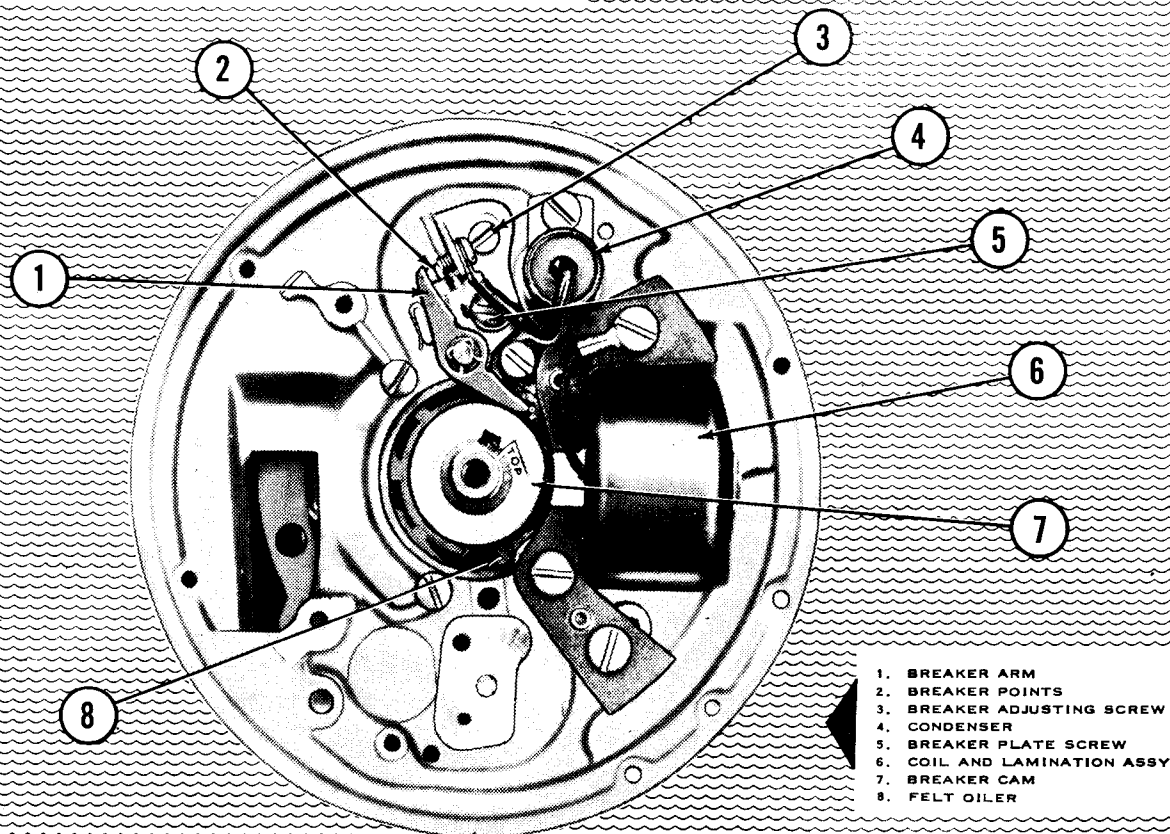

FIGURE 8
The magneto is equipped with a felt oiler to lubricate the cam and reduce wear on the cam block of the breaker (Fig. 8). A few drops of light oil should be put on the felt once or twice a year.
After cleaning, reset point gap to .020 inch maximum opening as follows: When hole in flywheel is directly over the breaker, maximum opening of the breaker is obtained. When adjusting points use the opening in the flywheel which is farthest from the emergency starting rope notch on rim of flywheel. Check with .020 inch feeler gage. If opening is under or over .020 inch, loosen breaker plate screw (item 5, Fig. 8) slightly. Turn adjusting screw (item 3, Fig. 8) to right or left until required setting is obtained. Tighten breaker plate screw and re-check with gage.